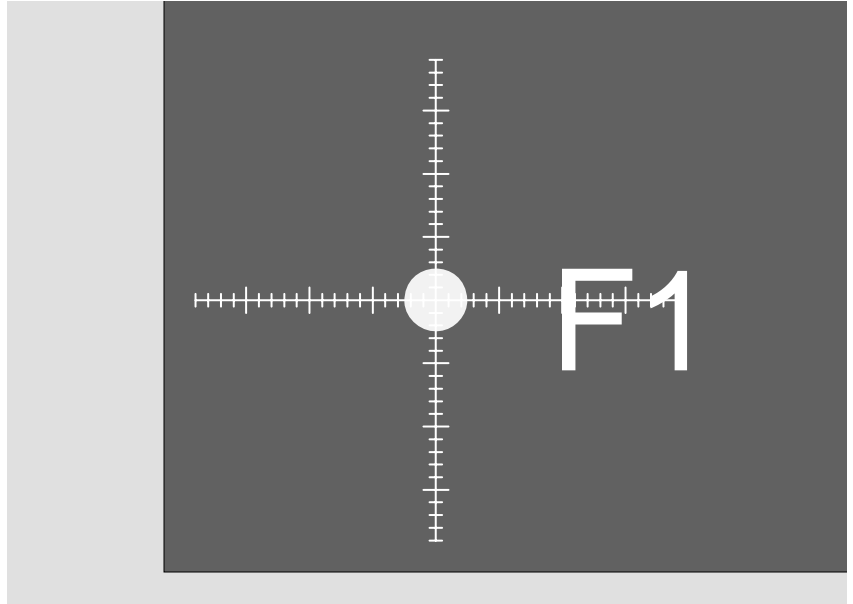

Figure 11-1. Centering fiducial mark F1.
4. Center the cross hairs on the fiducial mark of the board by using the trackball, see Figure 11-1.